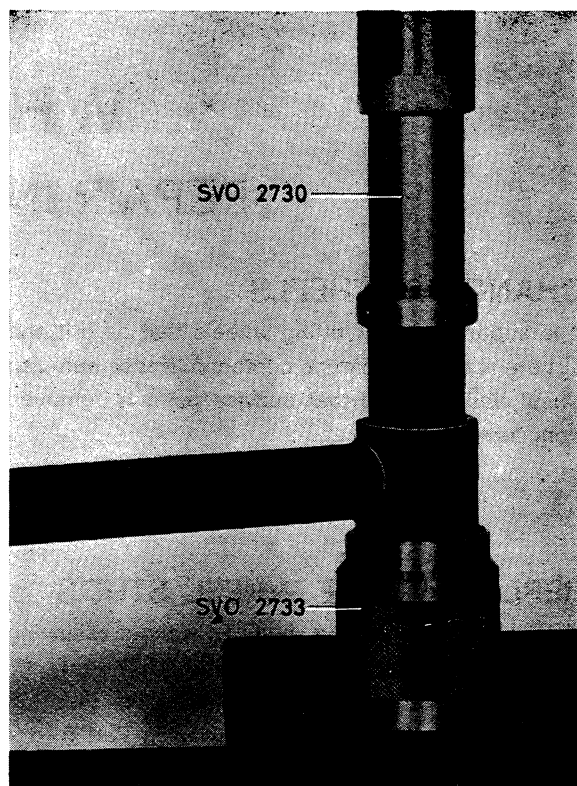

Fig. 7-13. Fitting front bush on torque rod
7. When pressing in a new front bush, turn SVO 2730 as shown in Fig. 7-13. Use SVO 2733 as a counterhold.